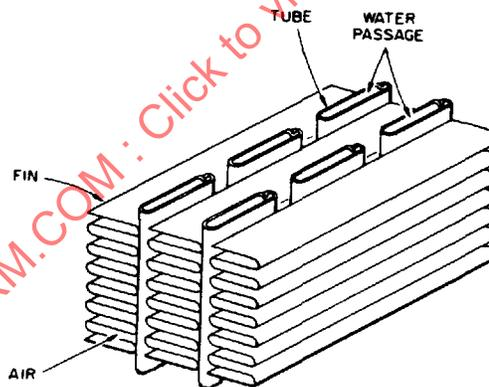

FIGURE 3—TYPICAL TUBE AND SERPENTINE FIN CORE
3.3 Tube and Serpentine Fin Core—An assembly of fluid tubes in line in the direction of airflow and joined in heat transfer relation by corrugated conduction fins inserted between adjacent line of tubes. See Figure 3.